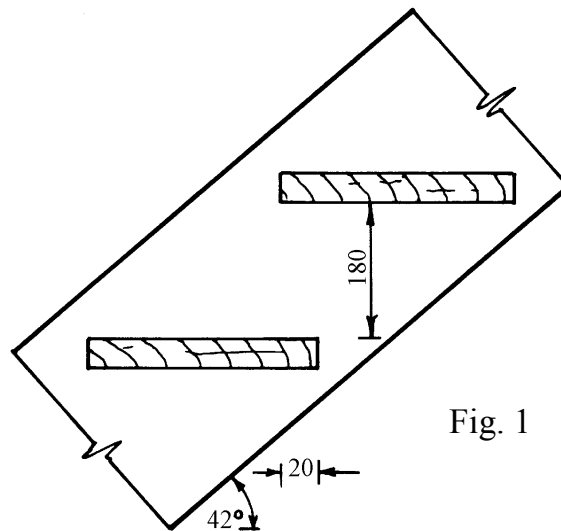

Fig. 1
4. (a) Figure 1 shows the section through the tread of an open riser stair.